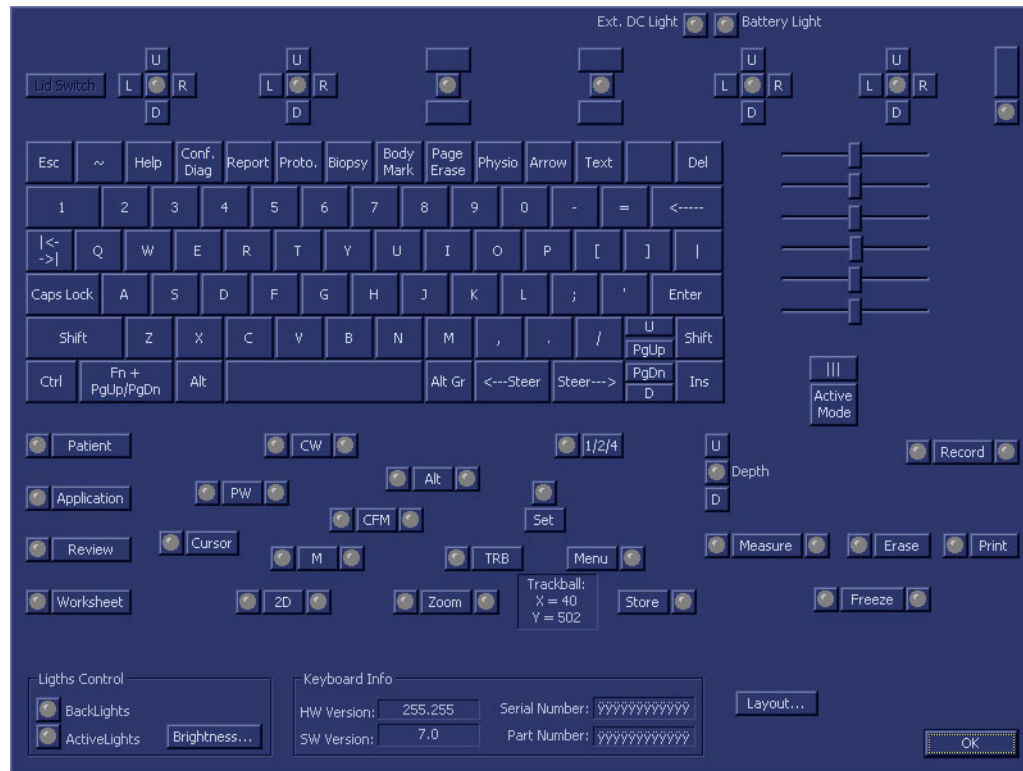

Figure 7-75 Extended Keyboard Test Screen
- a.) Move one of the ATGC sliders while inspecting the result displayed in the Extended Keyboard Test Screen (*right side - Figure 7-75*).